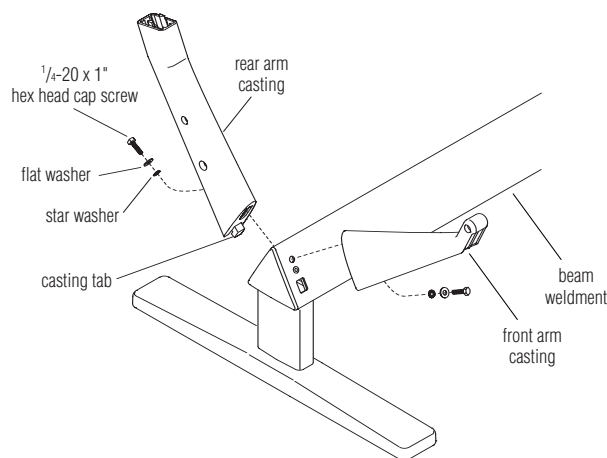

Figure 5
1. Place a  $\frac{1}{4}$ " flat washer and  $\frac{1}{4}$ " external type star washer onto a  $\frac{1}{4}$ -20 x 1" hex head cap screw as illustrated. Insert the cap screw and washers into the slot in the casting cavity at the inside, bottom of the arm casting. Make sure that the star washer is assembled between the casting surface and the  $\frac{1}{4}$ " flat washer. Hold the attachment face of the arm casting parallel to the beam face, aligning the casting tab to the square hole and the cap screw body to the threaded insert in the beam. Allow the casting tab to pass through the square hole in the beam (Figure 5).
2. Carefully thread the cap screw into the threaded insert in the beam. Press down firmly on the casting to set the casting tab into place on the beam. Hold casting in place and tighten screw to 108 inch pounds. Repeat directions 1 and 2 above for each front and rear arm (Figure 5).